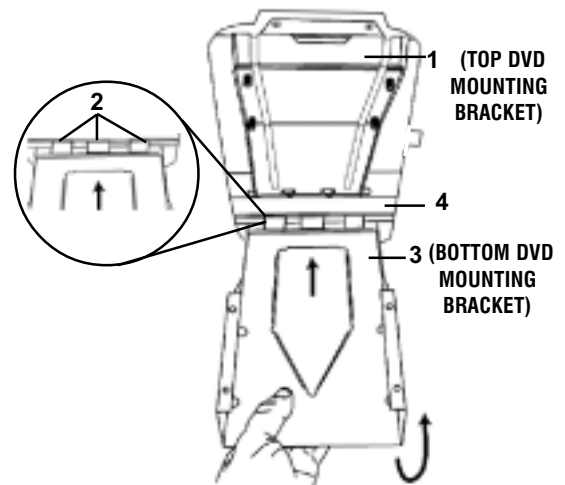

FIGURE 28
3. WITH THE TOP DVD MOUNTING BRACKET INSTALLED (1), SLIDE THE THREE TABS (2) ON THE FORWARD SIDE OF THE BOTTOM DVD MOUNTING BRACKET (3) SO THAT THEY GRIP THE ROOF BOW (4). (SEE FIGURE 28)